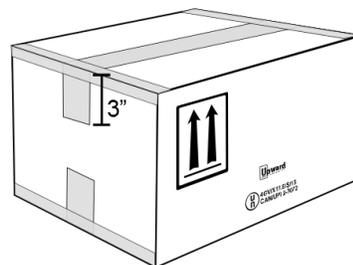

Figure 5
7. Fold flaps on top of carton and seal with three strips of tape in an "H" pattern. Extend tape beyond each edge by at least 3". (See Figure 5)